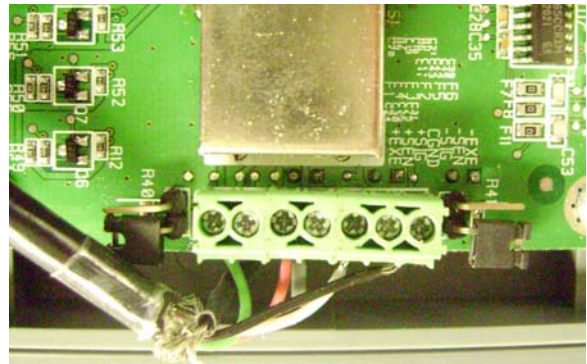

Figure 3-2. Load Cell and RS232 terminals on Main PCB.
4. Using a DVM, measure the excitation voltage (EXE+ and EXE- in Figures 3-2 and 3-3.) The reading should be 5 volts dc. This is the excitation voltage for the Load Cell and is regulated. If the voltage is lower, replace the PCB. (See Section 3.2.)
4. Disconnect the wires from the scale's load cell to the PCB's Load Cell Terminal Block J5. (See Figure 3-14, as well as Figures 3-2 and 3-3.)